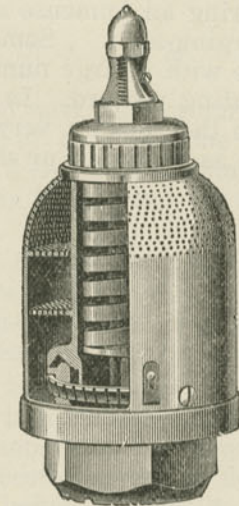

Fig. 108. Meady Muffled Locomotive Pop Safety-valve.
A. By a muffler, one form of which consists of a wire coil through the interstices of which the steam escapes, making much less noise than where it has to pour through a more contracted area. Other mufflers are made of boxes full of glass beads or of similar substances offering an immense amount of friction with large discharging-area. Some, again, have a central vertical pipe with a large number of L-shaped tubular branches pointing upward. In all, the principle is the same; to give the steam a very large area of escape, divided up into as many jets or sheets as possible. (Fig. 108.)